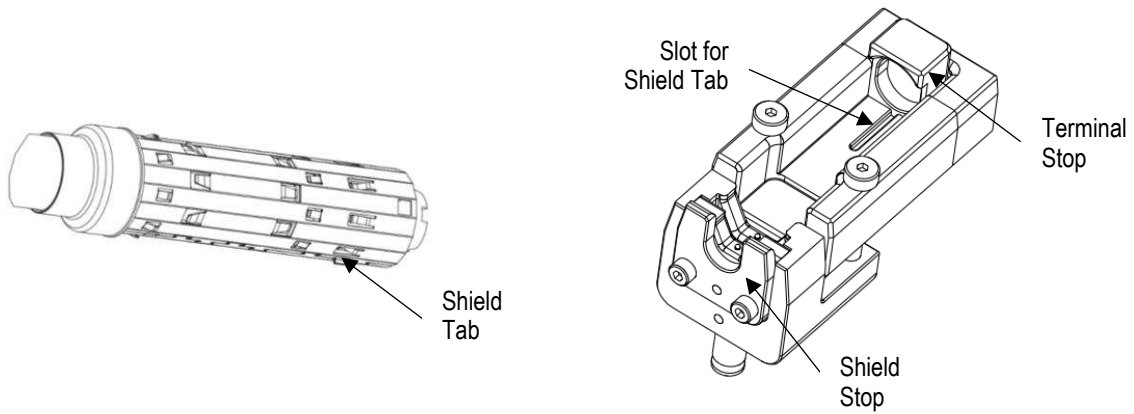

Figure 3A
2. Align Shield Tab on the sleeve with the slot in the Terminal Locator (see Figure 3A)
For clarity, upper tooling has been removed in Figures 3A and B.
3. Open the Wire Clamp by pressing down on the lever and insert the prepared assembly into the Terminal Locator; pushing the shield sleeve against the spring-biased Terminal Stop (see Figures 3A and B).
4. Push the assembly towards the tooling to seat the ferrule against the Shield Stop. Release the lever to clamp the wire in place (see Figures 3A and C).